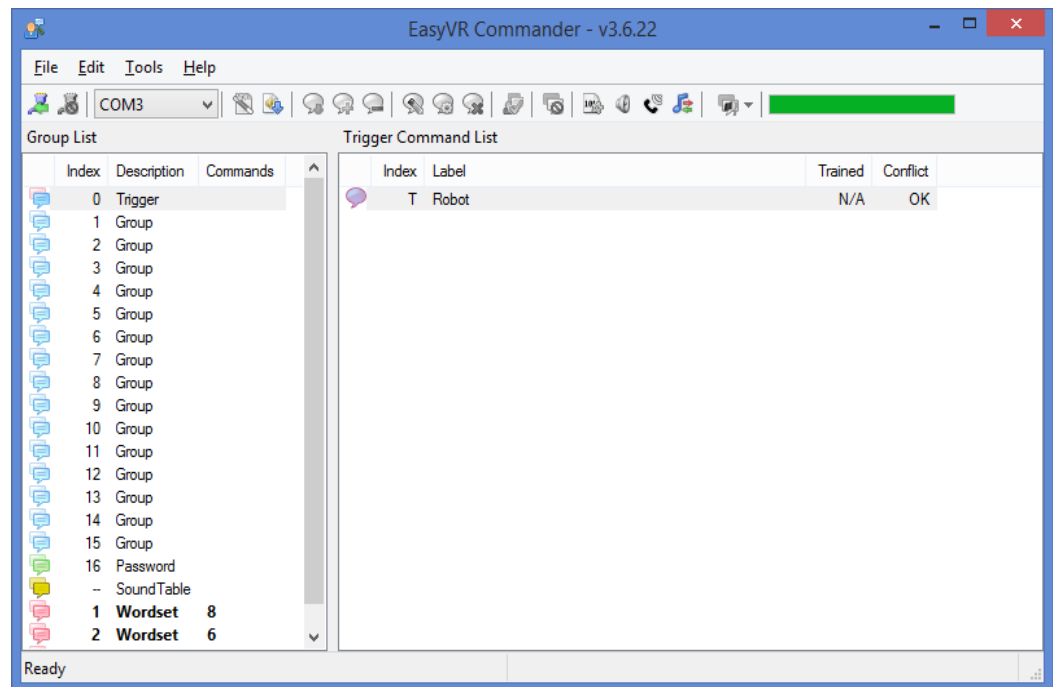

Fig.26 EasyVR commander GUI
- iii. After the installation procedure is completed the if one double clicks on the EasyVR commander icon a GUI shown in Fig.26 will appear